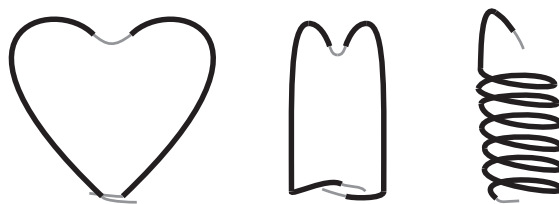

Figure 1.
2. Shape the copper wire so a complete circuit is made from the positive terminal of the battery to the magnet at the other end (see Figure 1 for examples). Cut the wire shorter if needed. *Note:* If making a V-shaped or heart-shaped wire, the insulation must also be cut away at the point of the V. See the *Tips* section.